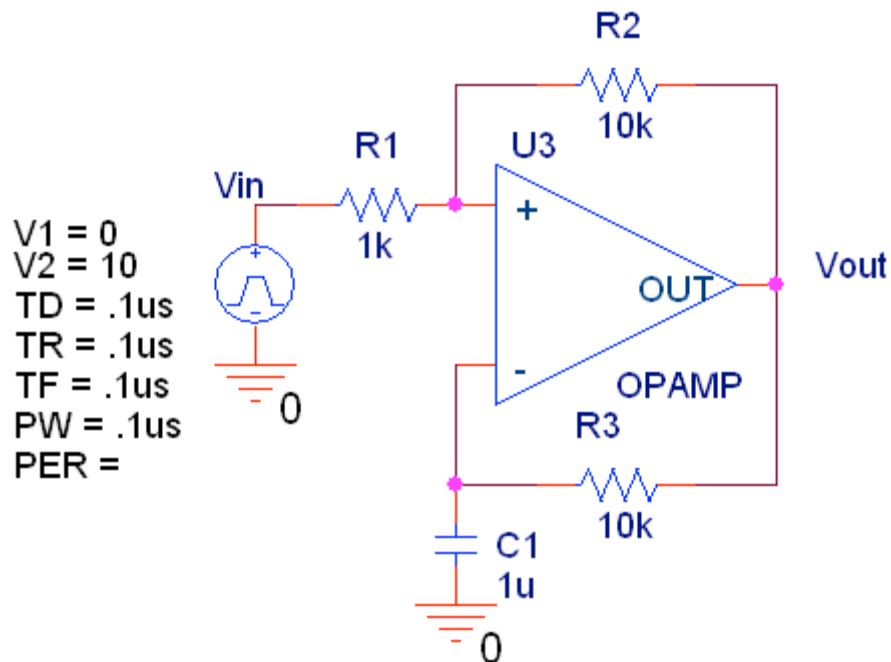

Figure 1: Unstable Multivibrator
1. Simulate the unstable multivibrator shown in Figure 1. The voltage source in the diagram is the PSpice part “VPULSE,” a voltage pulse needed to start the circuit oscillating. Note that when you actually build the circuit in lab, noise in the circuit will be enough to start oscillations. To view the output, set up a transient response with a runtime of about 15ms and a maximum step size (“step ceiling” in PSpice 9.1) of $5\mu\text{s}$.